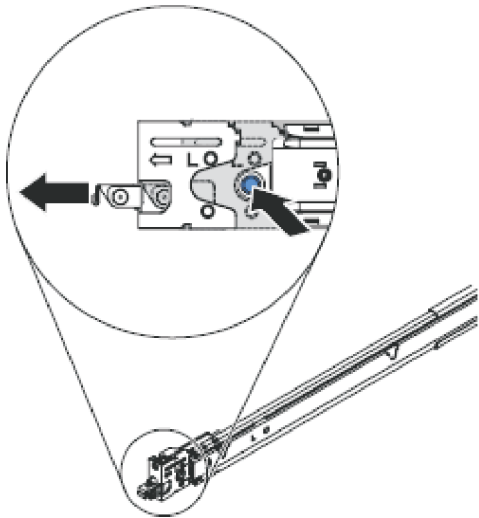

Figure 50. Preparing the front end of the slide rails
4. Prepare the front end of the slide rails, as shown in Figure 50.